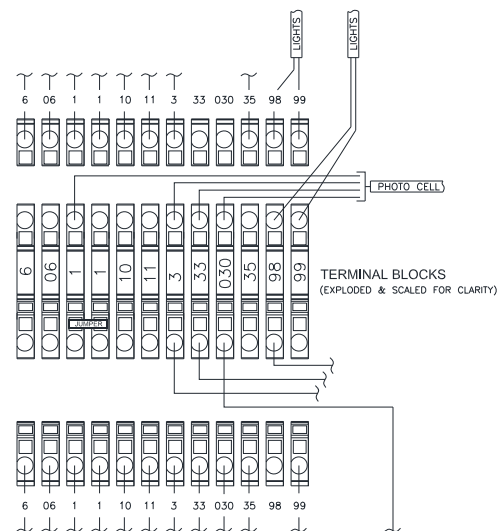

Fig. 5 – Wiring Connections
- 14) Using the numbering on each of the supplied wires, connect each to the corresponding terminal in the console as shown in **Fig. 5**. A small flat head screwdriver will be needed for this step.